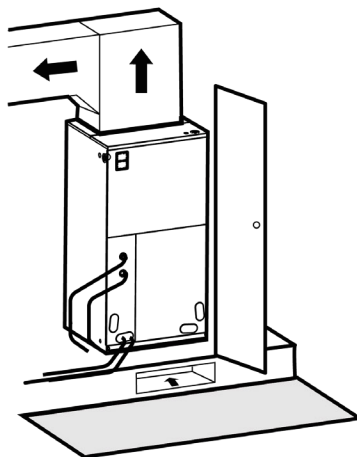

Fig. 2.1
- ⊘ ***DO NOT*** install the air handler in enclosed areas, such as garages, utility rooms or parking areas. Carbon monoxide producing devices (such as an automobile, space heater, gas water heater, etc.) should not be operated in enclosed areas such as unventilated garages, utility rooms or parking areas because of the danger of carbon monoxide (CO) poisoning resulting from exhaust emissions. If a furnace or air handler is installed in an enclosed area such as a garage, utility room, or parking area, and a carbon monoxide producing device is operated therein, there must be direct ventilation to the outside. Adequate ventilation is necessary to avoid the danger of CO poisoning which can occur if a carbon monoxide producing device continues to operate in an enclosed area. **If these warnings are not followed, Carbon monoxide emission can be (re)circulated throughout the building from the air handler causing serious illness including permanent brain damage or death.**
- If air handler is installed as **Fig. 2.1**, the air handler should be concealed in a specific room or space and make sure the air handler is not accessible to the general public.